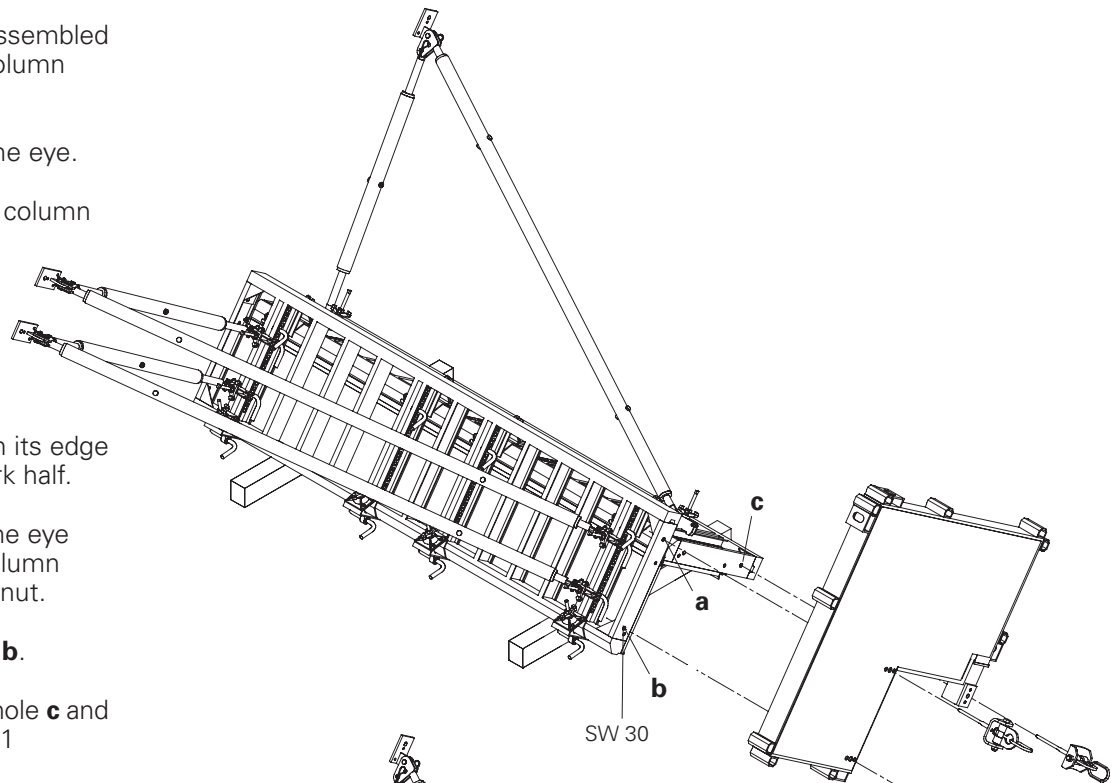

Fig. 11
6. Align telescopic beam with hole **c** and mount third crane eye. Fig.11